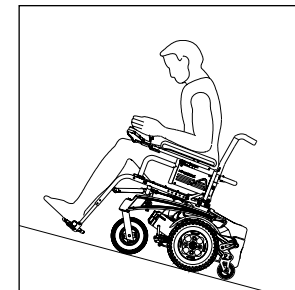

Figure 1
4. Lean or press your body uphill. This will help adjust for a change in the center of balance caused by the slope. (Fig. 1)